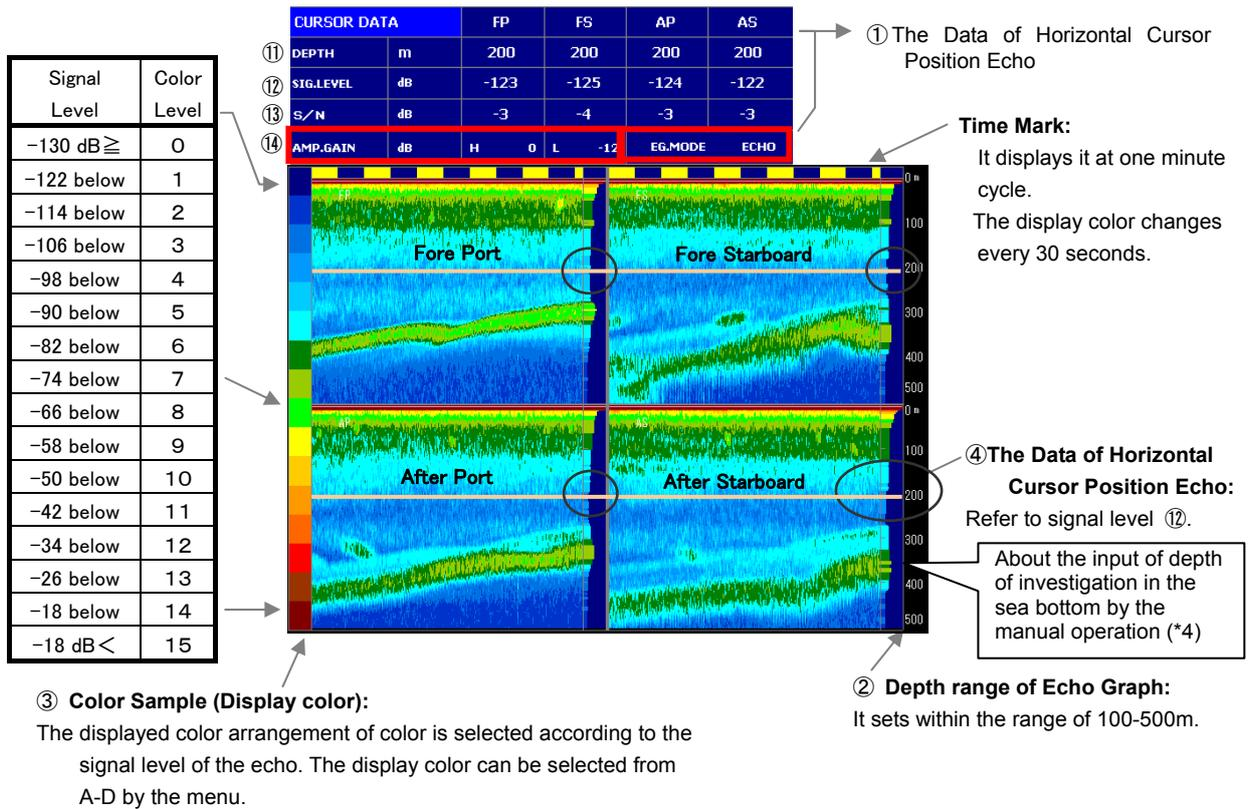

Fig. 4.2.2 Current 3 Screen Echo Graph
*6 Refer to Fig. 4.2.2 ⑪-⑭.
*7 Refer to Fig. 4.2.2 ⑬ S/N
*1 Display mode: Refer to Fig. 4.2.2-⑮
*2 Color sample and signal level: Refer to Fig. 4.2.2 ③
*3 Cursor position echo table: Refer to Fig. 4.2.2 ⑪~⑭
Cursor position echo table: Refer to Fig. 4.2.2-①